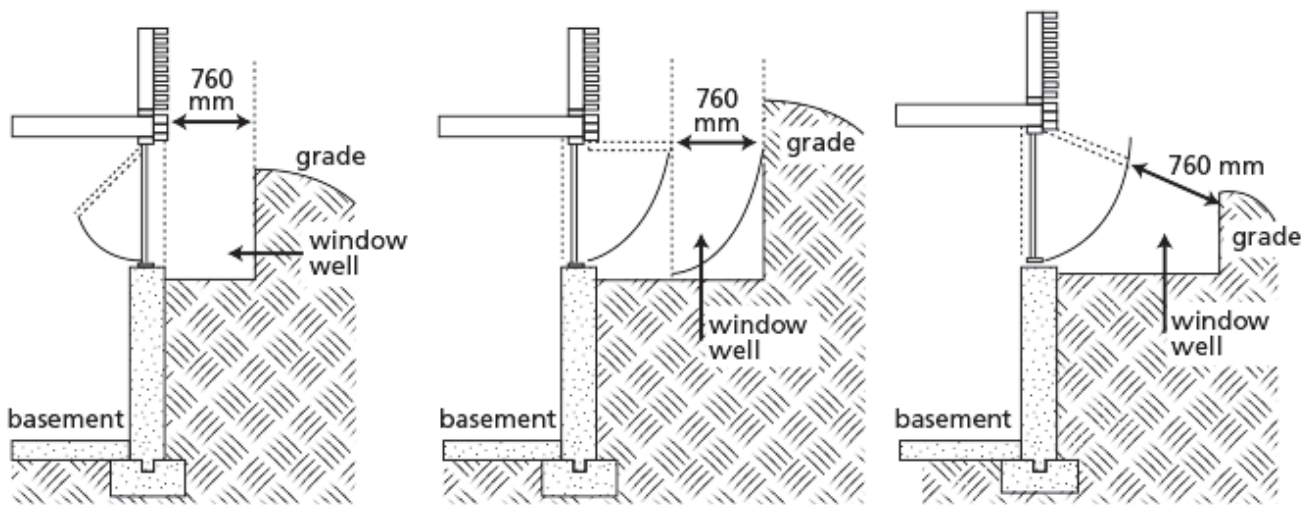

Figure 4
- 3) If the window referred to in Sentence (1) is provided with security bars, the security bars shall be openable from the inside without the use of keys, tools or special knowledge.
- 4) Where a window required in Sentence (1) opens into a window well, a clearance of not less than 760mm (30") shall be provided in front of the window, Figure 4).